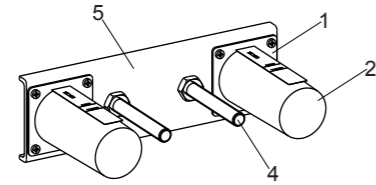
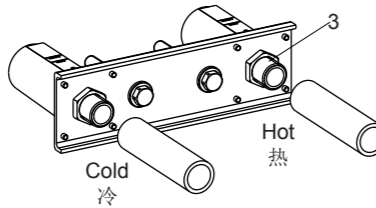

Fig.1
Fig.2
As fig.1 shown mark sure the number 38 on the temperature handle is aligned with the dot on the faucet body before your action. Pull out the temperature handle kit(36). As fig.2 shown remove stop kit(37).
**NOTE:** The out surface of the finished wall should be between the MAX and MIN marks on the protectors(2) as Fig.1 shown.
Use appropriate thread sealants or thread tape on the outlet bushes(3). Connect G1/2" hot and cold supplies to the outlet kit as Fig.2 shown, and connect hot supply to the left on the outlet kit with red mark.